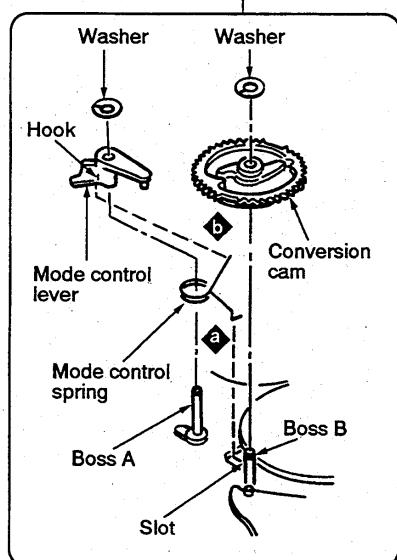

Figure 1
**Step 4** Install the mode control lever to the boss A. (Refer to figure 1)
Align the portion **b** of mode control spring with the hook of mode control lever. (Refer to figure 1)